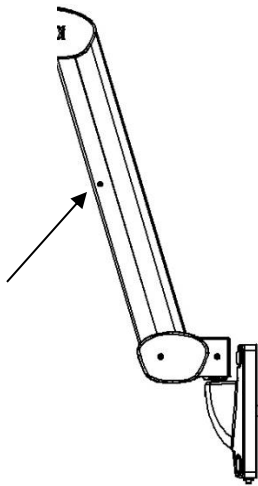

Figure 2: Screw in Stop Mounting Hole
3. Check the Stop Mounting Hole to see if there are screws already present. (See Figures 2&3)